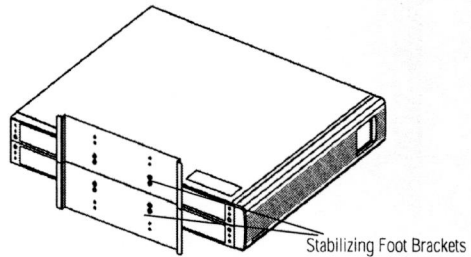

Fig. 14: Attaching Foot Brackets to External Battery Cabinet
2. Attach the two stabilizing foot brackets to the bottom (vent end) of the battery cabinet using eight (8) of the #6-32 screws provided (fig. 14).